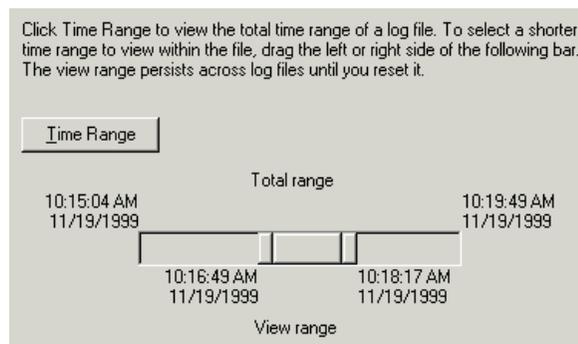

Figure 129. Selecting a time frame
3. Select the time frame you want to view shown in Figure 129 and click **OK**.